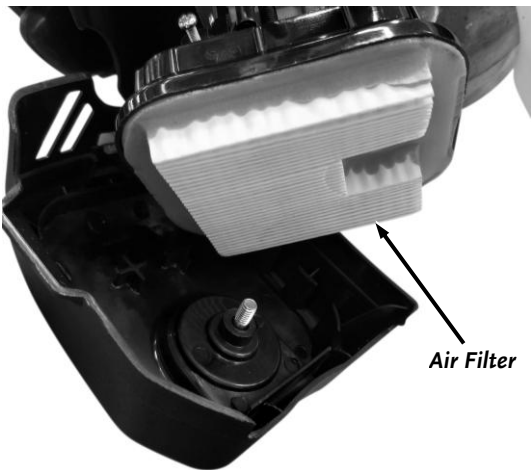

Figure 13
2. Remove the Air Filter Element from the Filter Housing (**Figure 13**). If the Filter is dirty, replace with a new one.